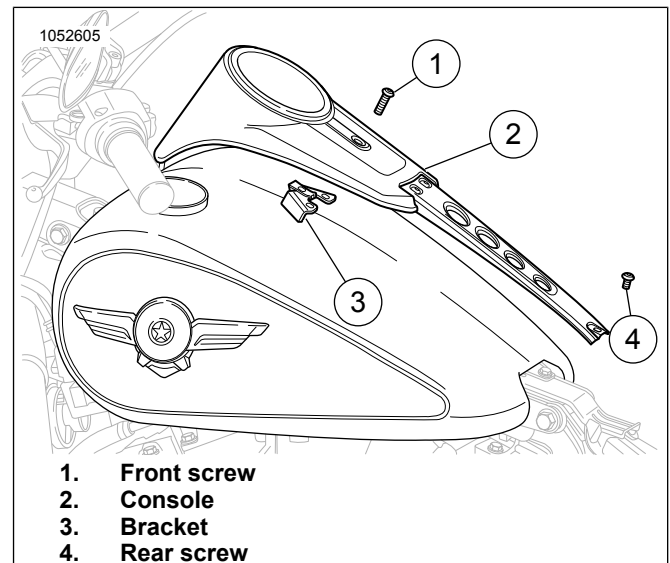
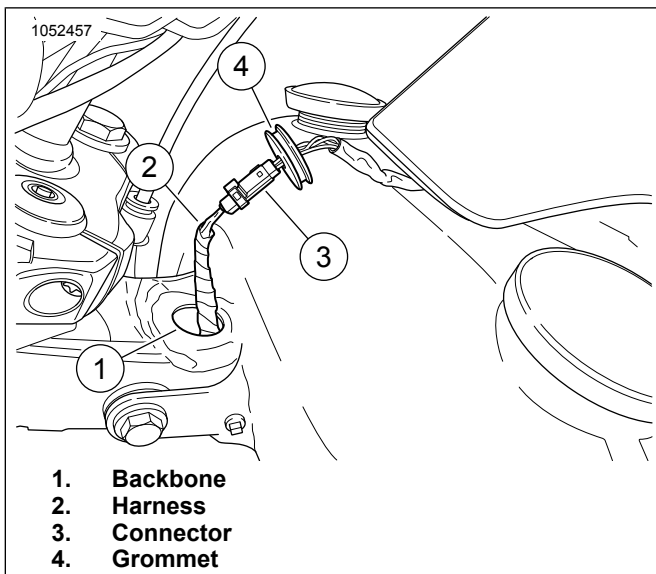

Figure 1. Console
Figure 2. Console Harness
1. See Figure 1. Detach console.
- a. Remove front screw (1).
- b. Remove rear screw (4)
- c. Move console (2) rearward.
2. See Figure 2. Disconnect connector.
- a. Remove grommet (4) from backbone (1).
- b. Pull harness (2) from backbone.
1. See Figure 2. Connect connector.
- a. Connect connector (3).
- b. Feed harness (2) into backbone (1).
- c. Position grommet (4) into backbone.
2. See Figure 1. Install console.
- a. Align console (2) with bracket (3).
- b. Install front screw (1).
- c. Install rear screw (4).